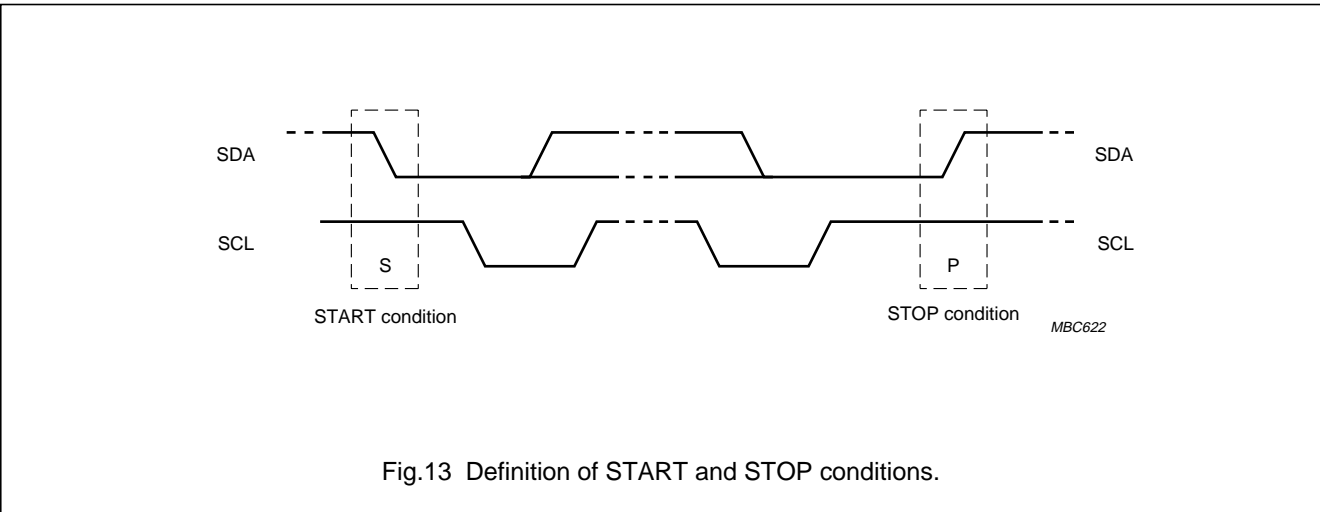

Fig.13 Definition of START and STOP conditions.
7.2 Start and stop conditions (see Fig.13)